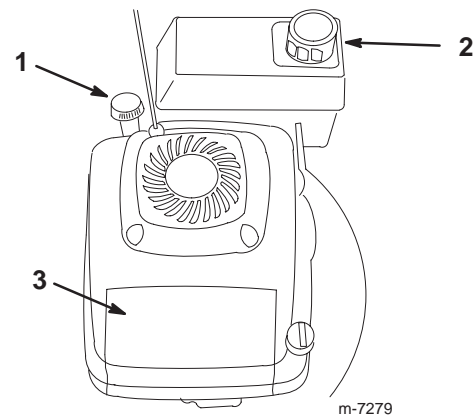

Figure 8
1. Clean around the fuel tank cap (Fig. 8).
- Open the fuel valve (Fig. 8).
5. Pull the starter handle (Fig. 8) lightly until you feel resistance, then pull it sharply.